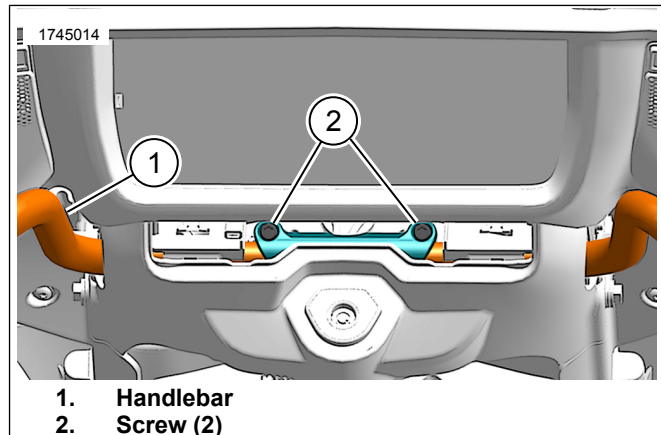

Figure 2. Handlebar Screw
4. Figure 2 **2023-later (FLHX/SE):** Lower handlebar.
- a. Make a line from handlebar (1) onto clamp to mark handlebar position.
- b. Loosen screws (2).
1. Figure 2 **2023-later (FLHX/SE)**: Secure handlebar.
- a. Raised handlebar (1) to marked position.
- b. Tighten screws (2).